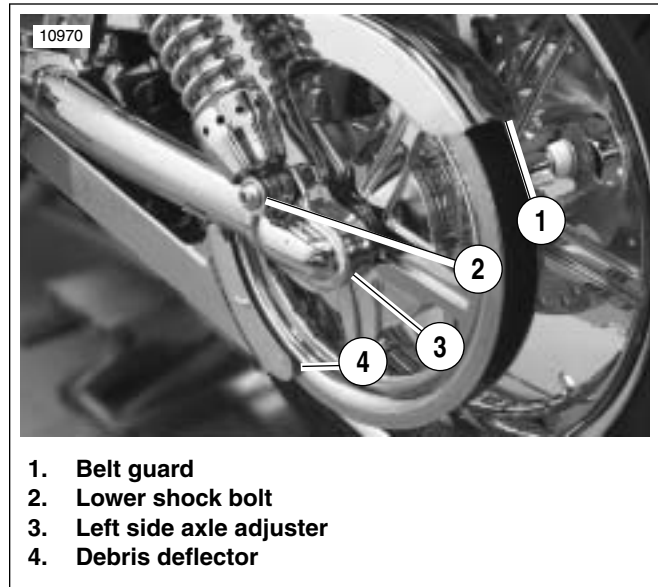

Figure 2-14. Rear Axle: Left Side
3. See Figure 2-14. Remove fasteners holding lower debris deflector to rear fork. Remove debris deflector.